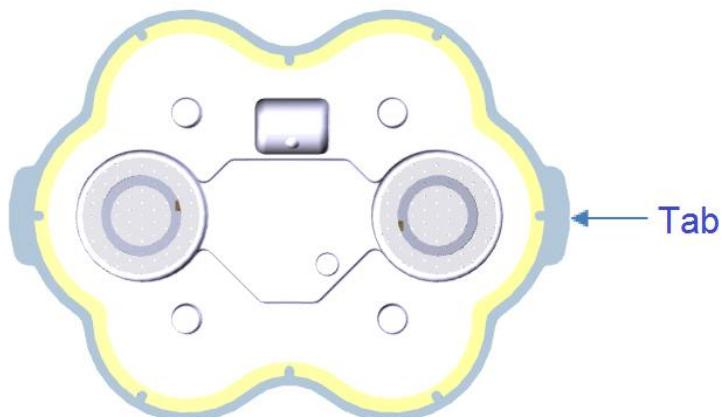

Figure 1: Patch Tab
| Figure 1: Patch Tab | 9 |
4. Remove the bottom liner gently by pulling the tab as shown in the Figure 1.